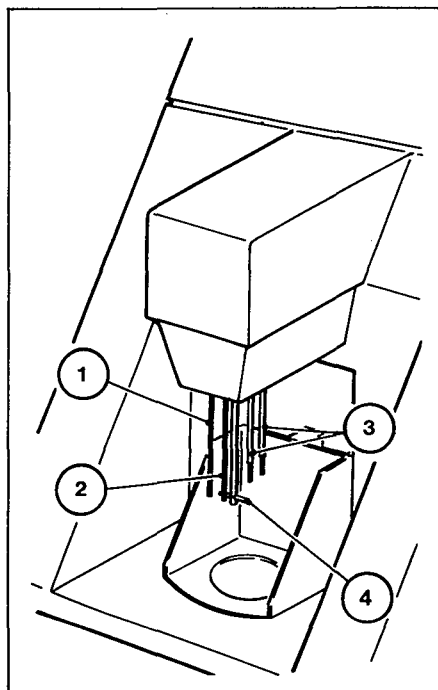

Figure 4.1 Electrodes and Electrode Head
1. Remove the four electrodes by withdrawing them downwards from the electrode head. Note that the anode (item 1, Figure 4.1) is longer than the other three electrodes.